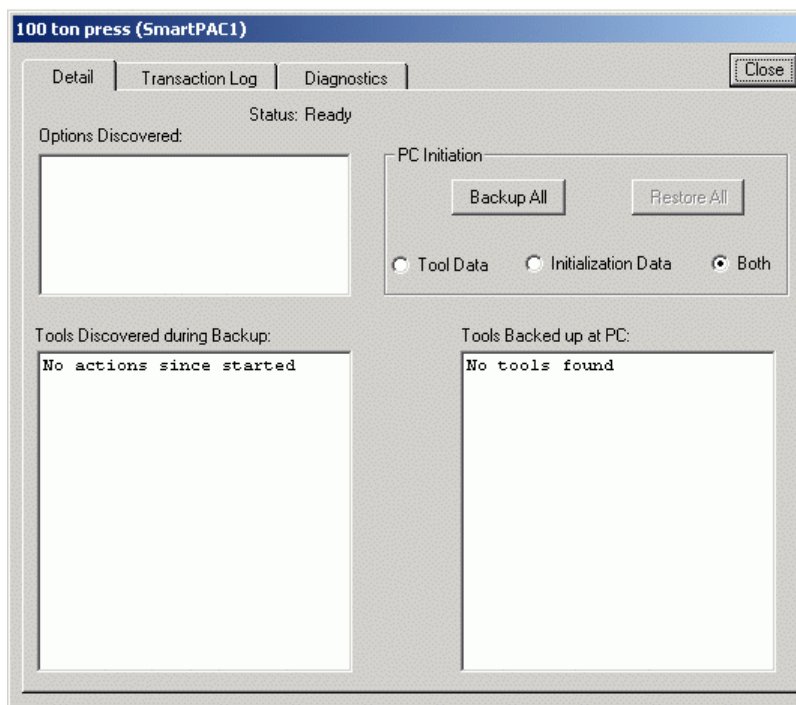

Figure 7. SBR Backup/Restore Screen
17. Click anywhere on the line of SmartPAC information to highlight it, then double-click on the highlighted line. A screen showing the press name you specified in step 8 followed by the SmartPAC model (i.e., "SmartPAC 1" or "SmartPAC 2") on the title bar displays (see Figure 7, next page). The Detail tab is selected. The entry in the **Status:** field should be *Ready*, as it is on the SBR screen, which is visible behind the current screen.
If you are restoring tools to a SmartPAC that has already been set up, simply launch the SBR program (step 1 of the Backup procedure), then highlight and double-click on the line of information for that SmartPAC on the SBR screen (step 15). The SBR Backup/Restore screen displays with the Detail tab selected (see Figure 7).